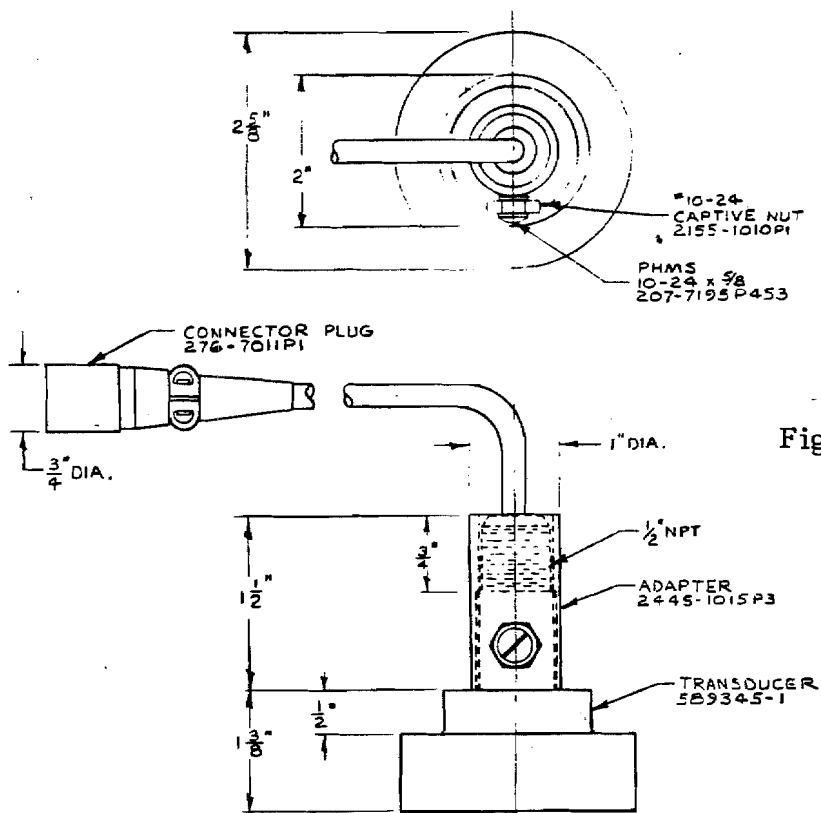

Figure 5-2 200T5HAD Outline
3. Remove the screw and locknut from the side of the transducer sleeve (see Figure 5-2).